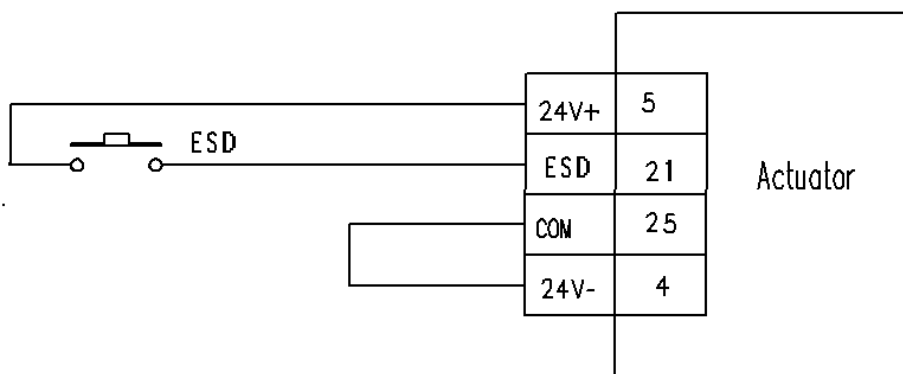

FIG. 4-8
4.2.2.6 ESD Control (Fig. 4-8)